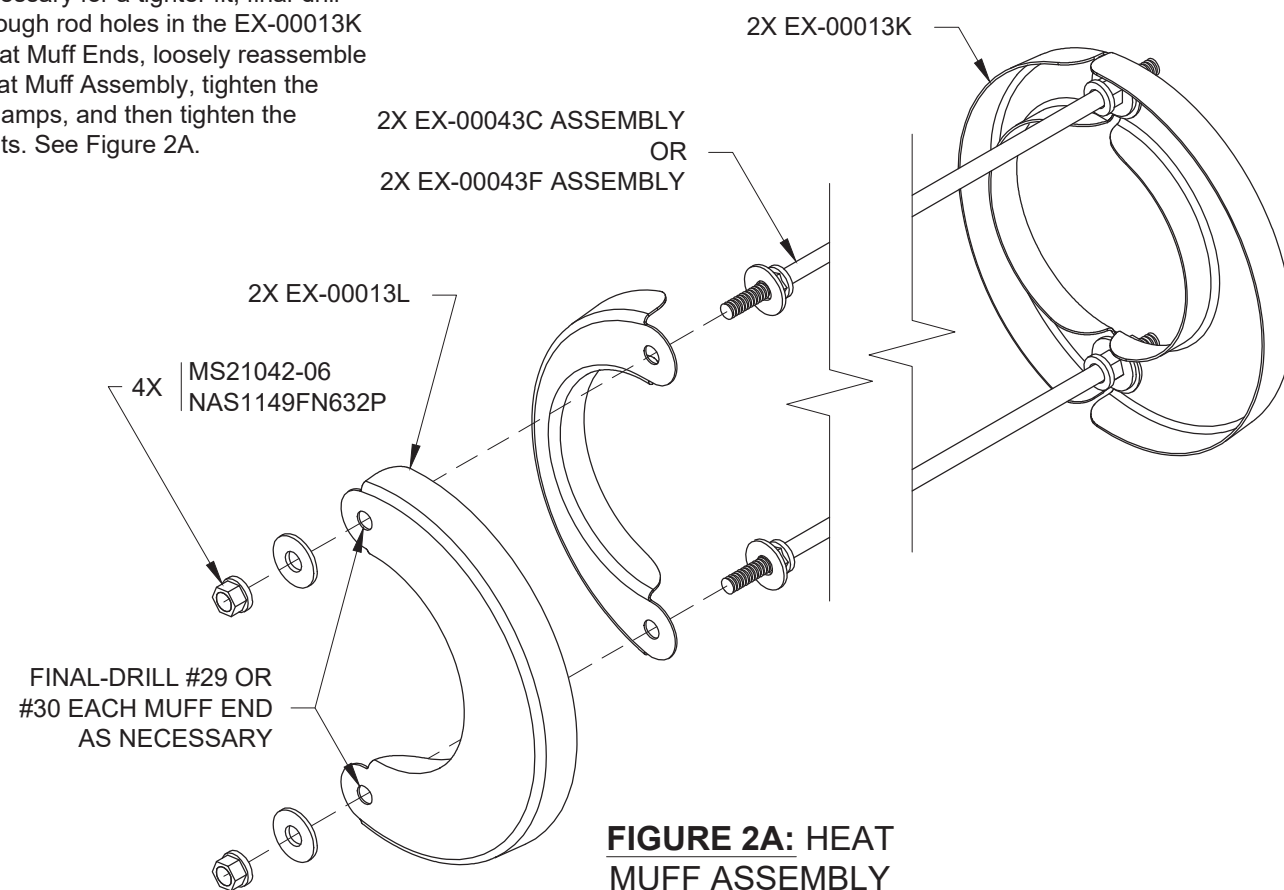
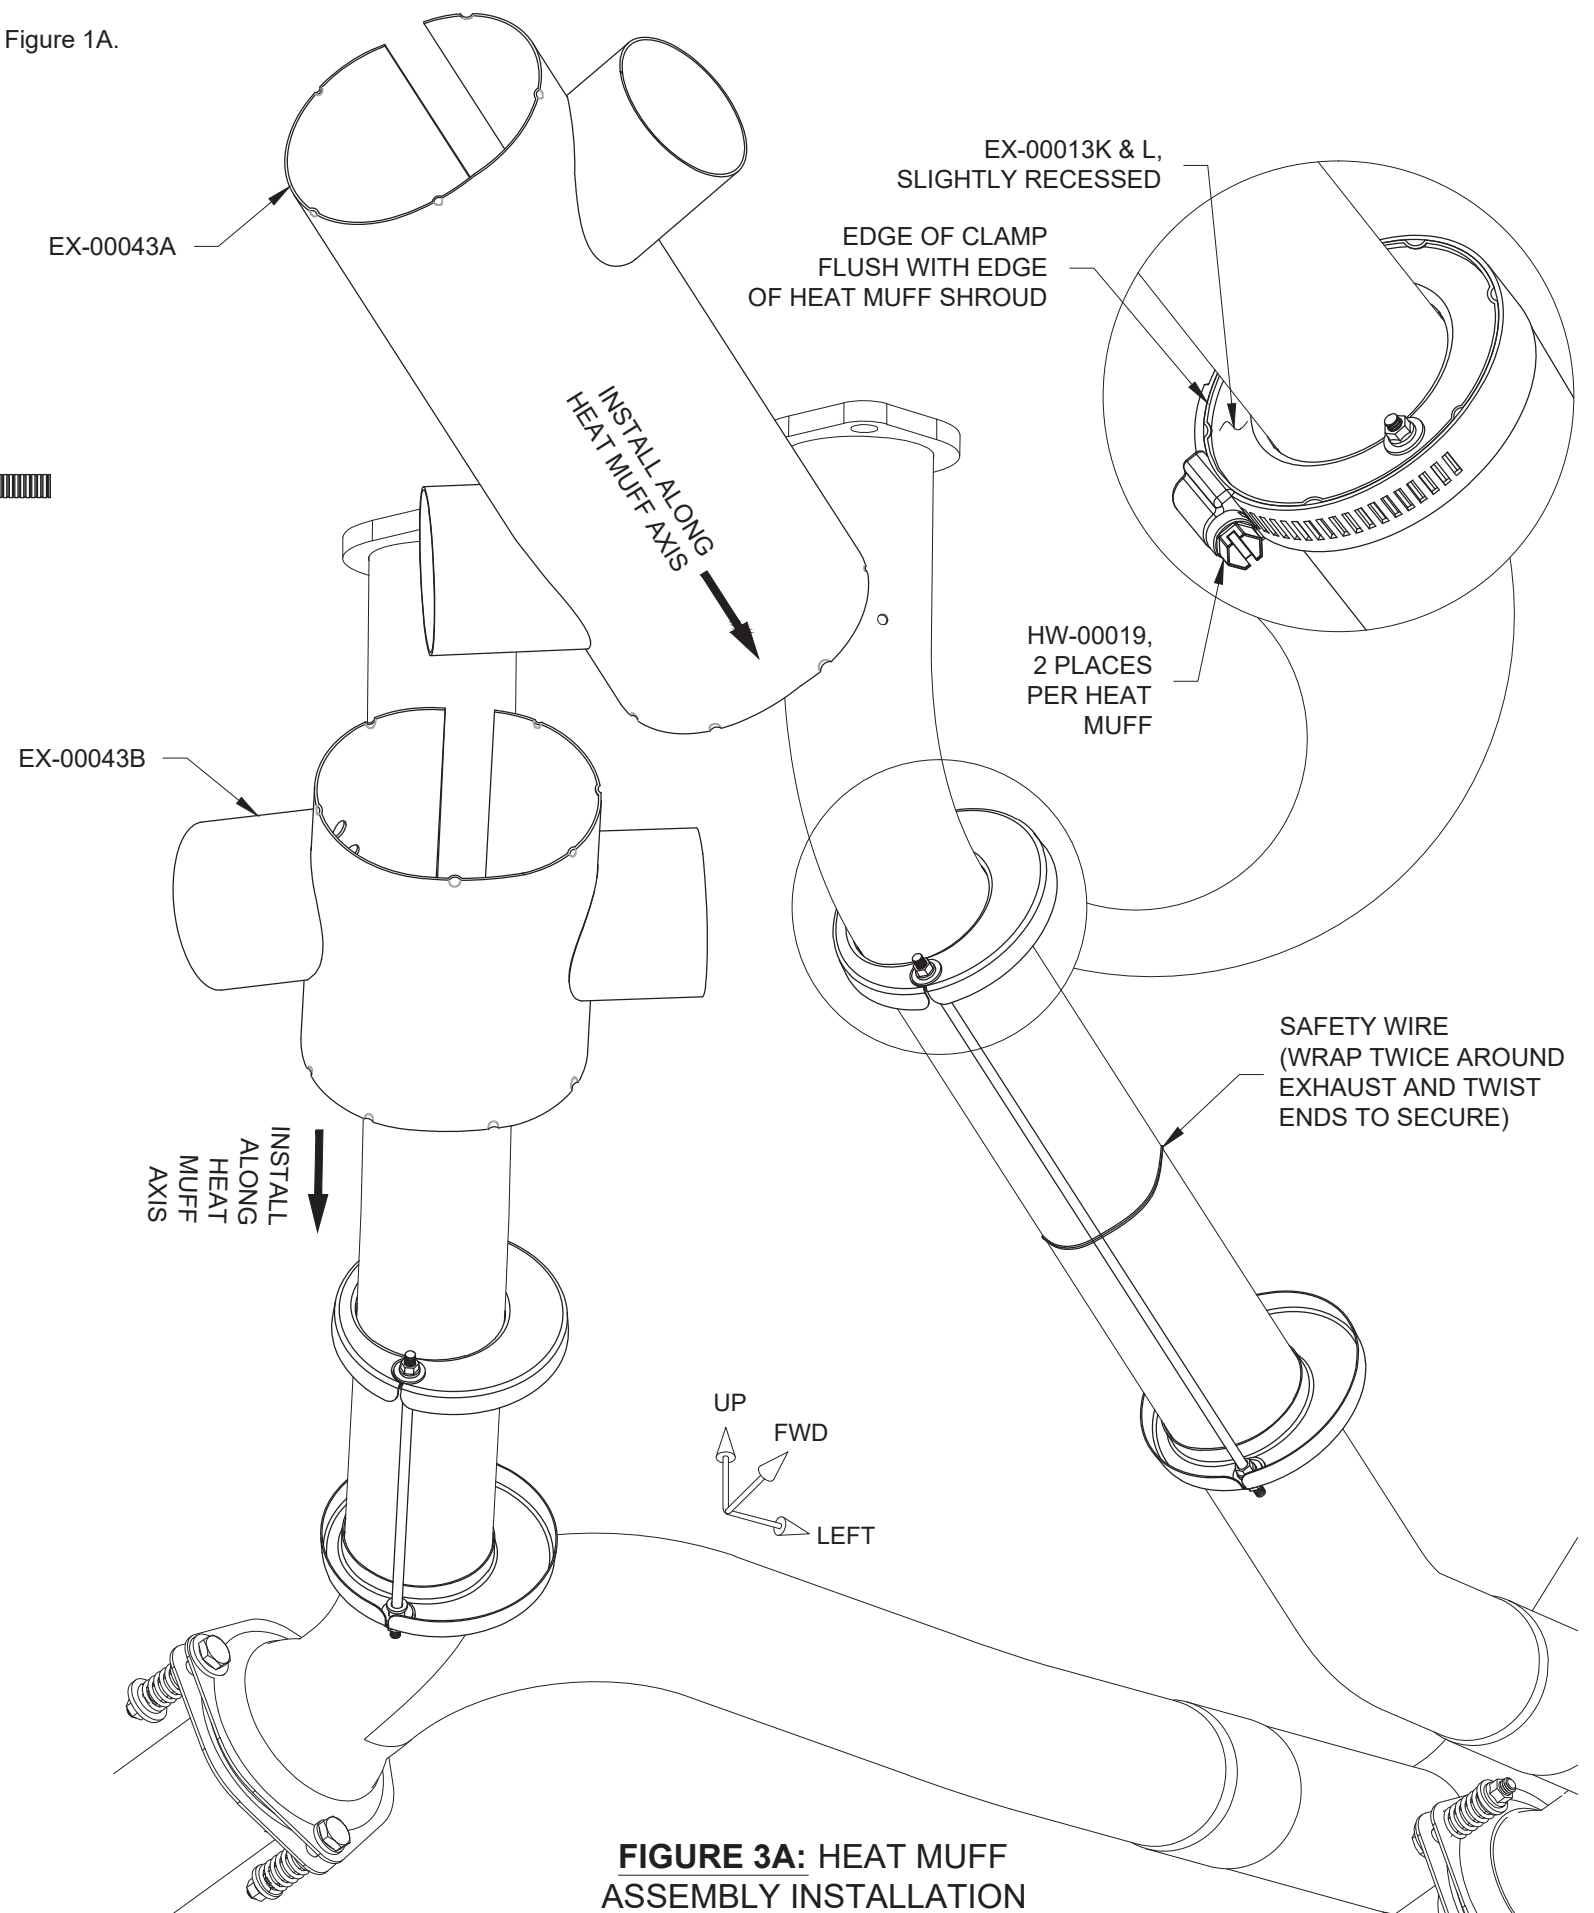

FIGURE 2A: HEAT MUFF ASSEMBLY
FIGURE 3A: HEAT MUFF ASSEMBLY INSTALLATION
Step 3: Install the two Heat Muff Assemblies as shown in Figure 2A and Figure 3A. Ensure the clamps are oriented as shown on Page 62-21 to maintain cowl clearance. Position the wider EX-00013L Heat Muff Ends on the inboard sides.
As necessary for a tighter fit, final-drill the through rod holes in the EX-00013K & L Heat Muff Ends, loosely reassemble the Heat Muff Assembly, tighten the hose clamps, and then tighten the lock nuts. See Figure 2A.
Step 2: Temporarily route and install the scat hoses , ensuring that they route as shown in Figure 2A and Figure 3A. Strive for minimal contact between the scat hoses and other components. In some areas, light contact with other components may be unavoidable.